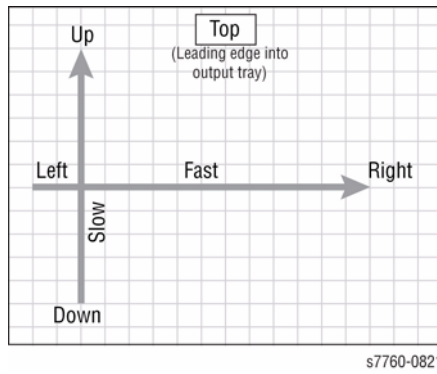

Figure 2 Grid 1-Dot Pattern Annotations
- c. Note the leading edge of the paper when removing the test print from the tray. Use a pen or pencil to note the leading edge as the **TOP** of the print Grid 1-Dot pattern annotations in **Figure 2**. With **TOP** up, note the direction of scan from left to right as the **FAST** direction. The direction from the bottom of the print to the top is referred as the **SLOW** direction.